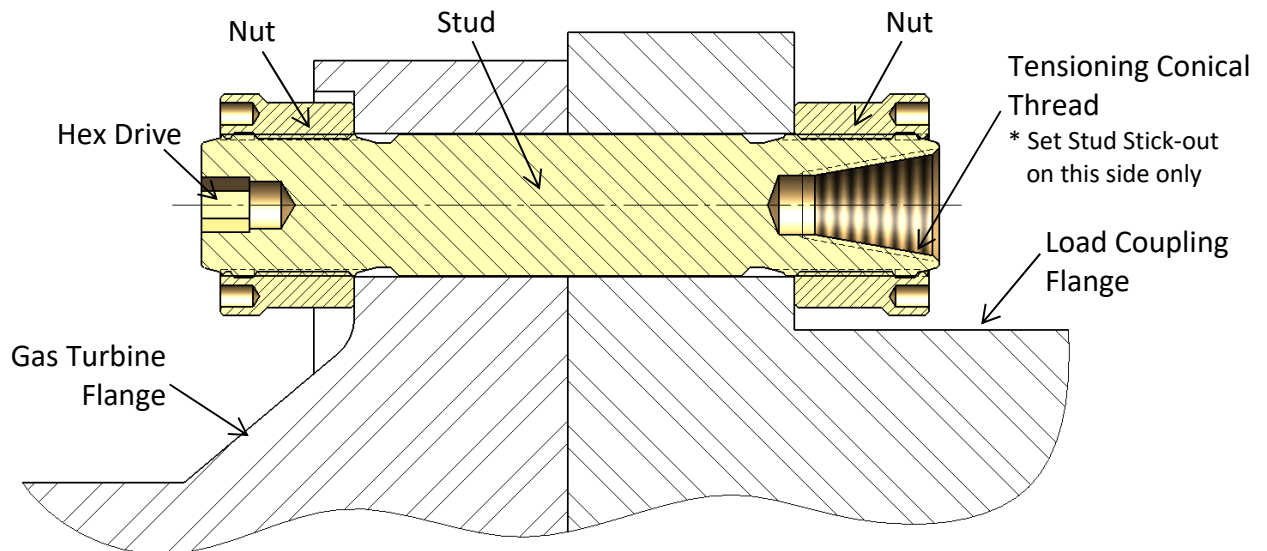

Figure 1A – Cross-section View of Gas Turbine to Load Coupling Bolted Flange Connection
2. Slide the stud and cylindrical nut assembly into the flange as shown in Figures 1A, 1B, and 1C.